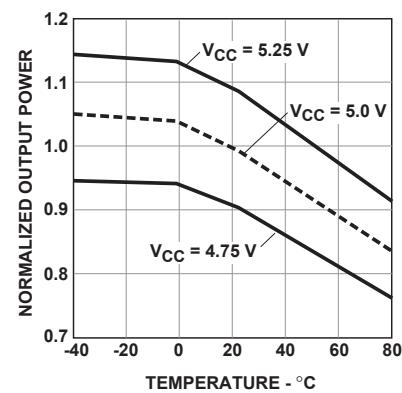

Figure 4. Typical normalized optical power vs. temperature (in recommended drive circuit)
3. Minimum and maximum values for P_T over temperature are based on a fixed drive current. The recommended drive circuit has temperature compensation which reduces the variation in P_T over temperature; refer to Figures 4 and 6.